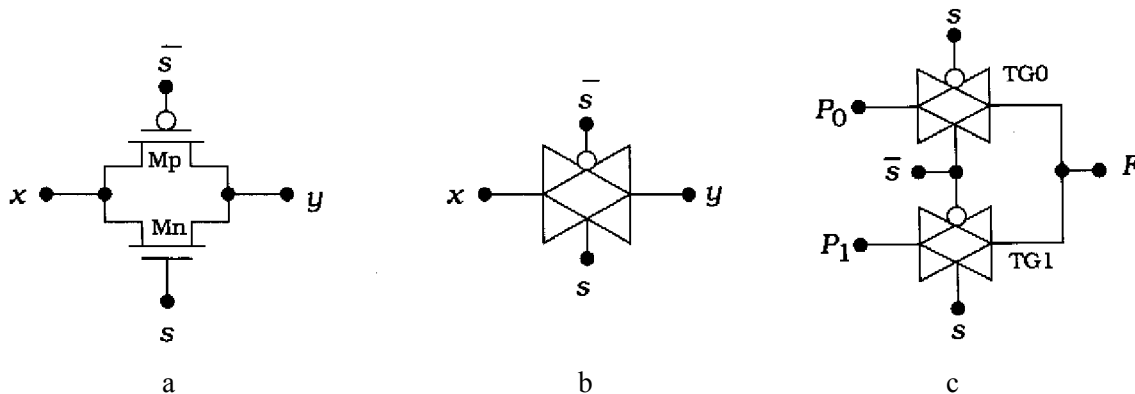

Fig. 1: (a) CMOS transmission gate, (b) transmission gate symbol, (c) 2:1 transmission-gate multiplexer, MUX21.
1. Create the schematic for a 2:1 multiplexer cell (MUX21) using complementary pass-gate (transmission gate) logic with minimum-sized ($L=0.6\mu\text{m}$, $W=1.5\mu\text{m}$) nMOS and pMOS transistors. See Figure 1 below and Chapter 2 notes. Include an inverter within this cell to invert the select signal. Create the inverter at the transistor level; do not instantiate an inverter cell into this schematic. You are not required to make a transmission gate cell, rather you can implement transmission gates with transistors directly within the MUX21 cell. The cell should have three inputs (e.g., a, b, s) and one output. When drawing the schematic, consider how the transistors might be arranged in the layout (step 4).